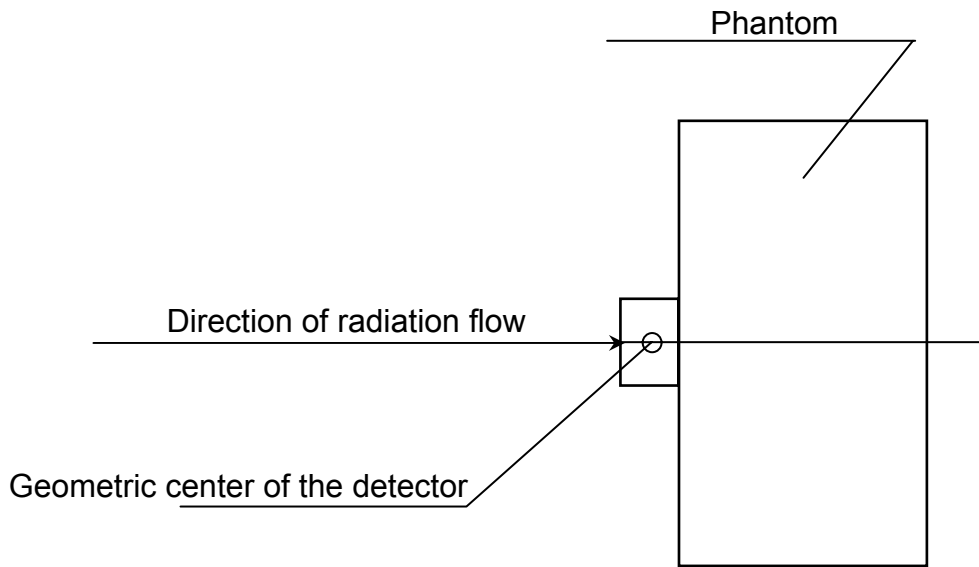

Figure A.1 – The method of mounting the dosimeter with a phantom on a dosimetric verification assembly
- to set the maximum individual dose equivalent rate $H_p(10)$ (DER) and individual dose equivalent $H_p(10)$ (DE) threshold values as described in the section 2.4.4 of the manual.
2) fix the dosimeter on a phantom, the inscription "Side towards the body" facing the dosimeter. Place the dosimeter with a phantom on a dosimetric verification assembly with a ^{137}Cs gamma radiation source; the graduation direction should coincide with the direction of radiation flow and the longitudinal axis of radiation flow should pass through the geometric center of the detector, Figure A.1. Geometric center of the detector is marked with "x" sign in the operating documentation;